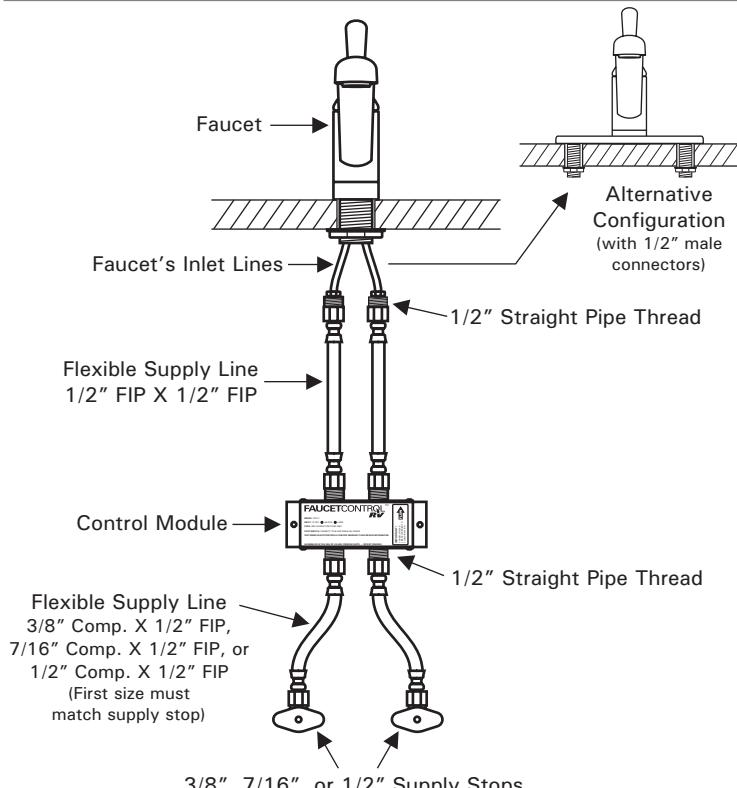
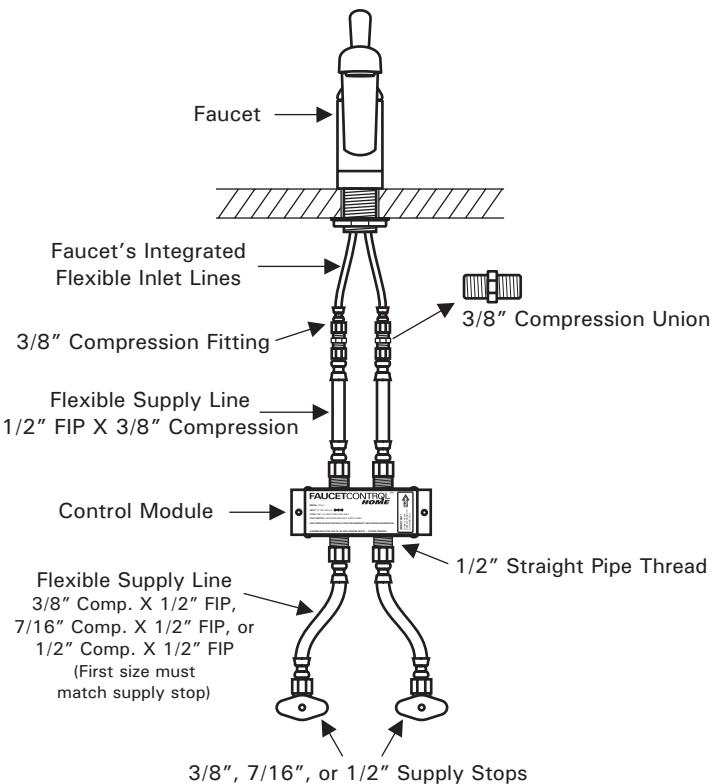

Figure 1A - Faucet with 1/2" Male Connectors
Figure 1B - Faucet with 3/8" Female Compression Connectors
Faucets can be divided into two general categories based on the size and type of the faucet inlet fittings. Use the following descriptions together with Figures 1A and 1B to determine the connection type:
- ① Close the supply stops and move the faucet handle(s) to the open position.
- ② Place a large towel under the work area to absorb any dripping water during the installation process.
- ③ Install the water connections according to Figure 1A or Figure 1B, as applicable.
- ④ Open the supply stops and check for leaks. Recheck for leaks after the foot pedal installation is complete.